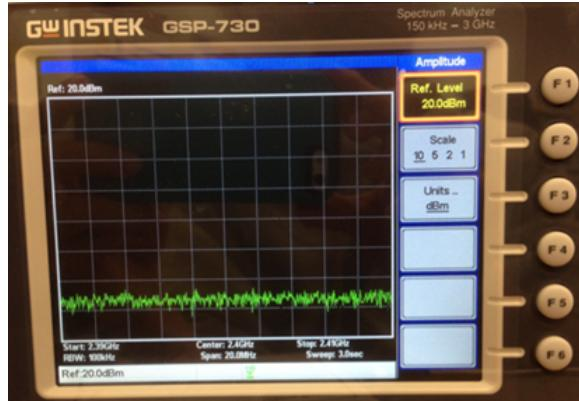

Figure 14: Setting the reference level.
- (d) Set the reference level. Press the “Amplitude” button, then press “F1” button to select the “Ref. Level” option. Type in “20 dB” to set the reference level to 20 dBm9. The screen of the spectrum analyzer should look like that in Fig. 14.